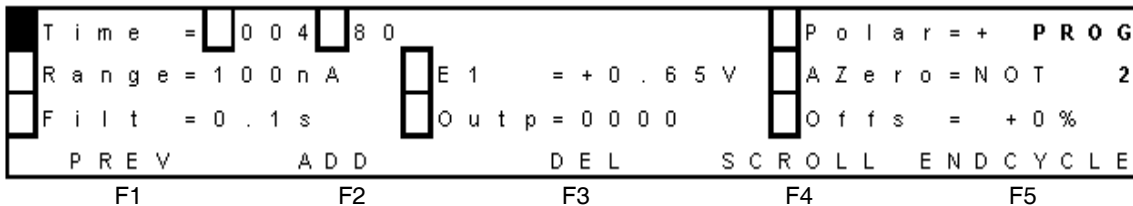

Figure 3-53 Prog Screen After Adding Line 2
h. Select **F2 ADD**. The Prog screen appears (Figure 3-53).